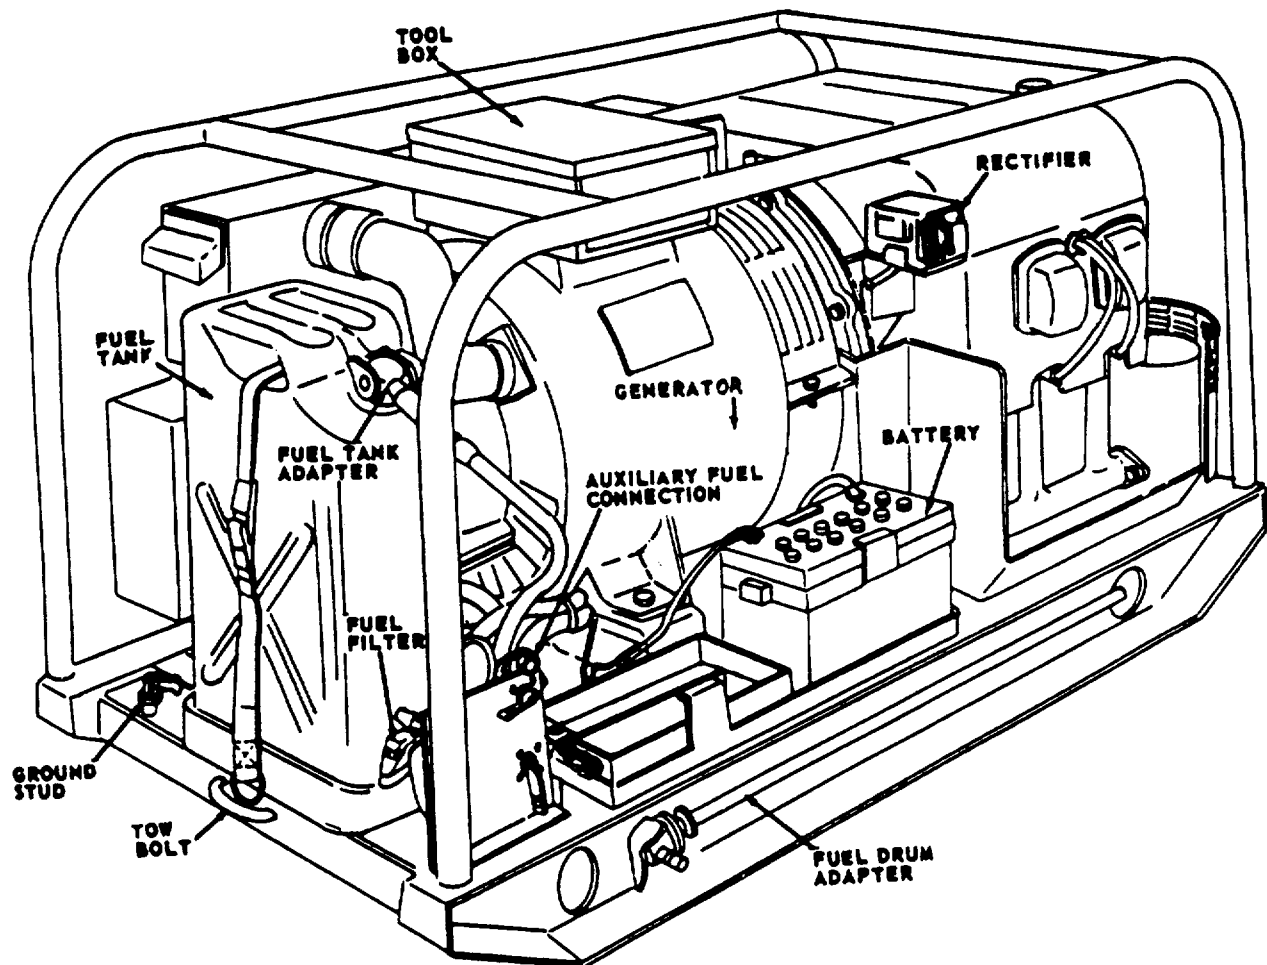

Figure 1-1. Generator set, right rear three-quarter view (all serial Numbers except MA68-0001 through MA68-2967) (Model MEP-018A) (sheet 1 of 2).
a. General. The Department of Defense, generator sets, Model MEP-018A (figs. 1-1 and 1-2) and Model MEP-023A (figs. 1-3 and 1-4) are self-contained, skid-mounted, portable units. The set is powered by a 4-cylinder, air-cooled engine that is directly coupled to a 10 kilowatt, alternating current generator.